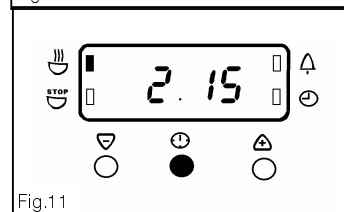

Fig.11
- vi) To check the 'End Time' during the cooking period, simply press the Selector Control button once and the remaining time will be displayed, as Fig. 11.